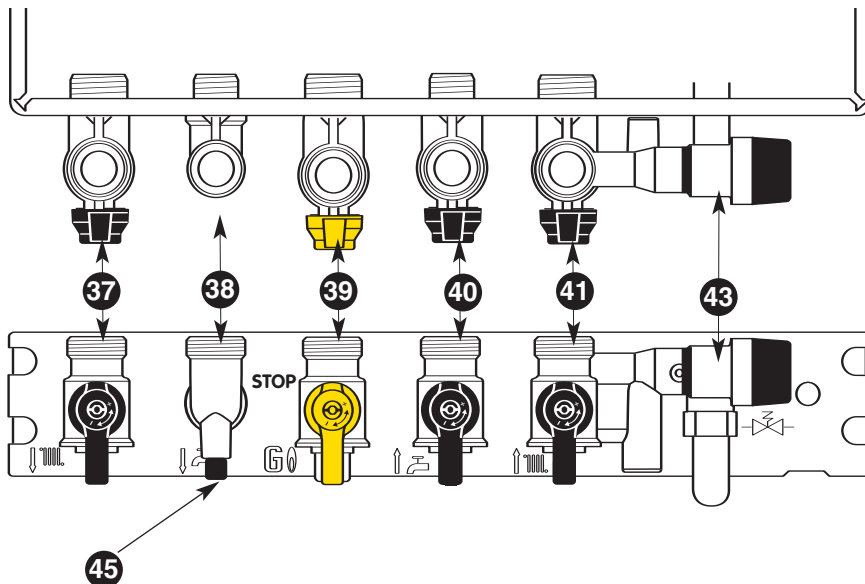

Fig. 21
### Connecting bracket Taps shown in Open position (fig. 21)
3. Open the gas tap 39 (fig.21).
**Note :** The configuration of CH system can generate some gravity effect when the boiler is set in DHW mode only. It may result a temperature rise of the heating pipes close to the boiler (or eventually a radiator). To avoid that, it is possible to close during summer period (Central Heating switched off) the heating flow isolating tap (37 fig. 21). Don't forget to open it when you will switch on the Central Heating mode again.
- Shut off the gas service tap **39** (fig. 21)
- Pour the water out the boiler with the screw **45** (fig. 21)